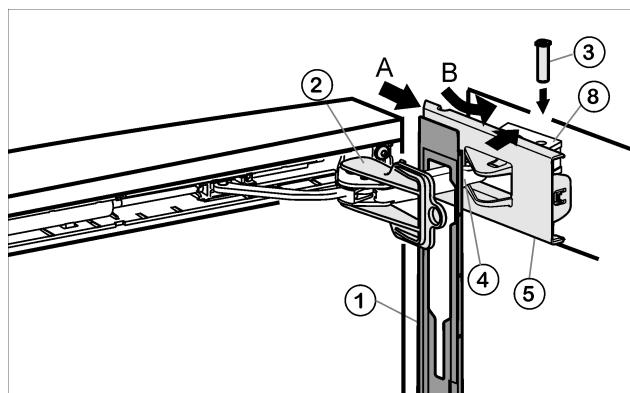

Fig. 17
- Hook panel Fig. 17 (1) into the damper bracket Fig. 17 (4) such that the detent hooks are pointing inwards and the front side is facing the appliance.
- Push on cover Fig. 17 (5) from the outside (A) and pivot over the bearing part Fig. 17 (8) (B).
- Place cover Fig. 17 (5) on top and allow to snap into place until the first notch.
- Pull damper bracket Fig. 17 (4) towards bearing bracket and insert bolt Fig. 17 (3) from above such that the square is resting in the recess.
- Now snap cover Fig. 17 (5) completely into place on the bearing part Fig. 17 (8).
- Remove locking device Fig. 17 (2) by twisting it.
- Snap panel Fig. 17 (1) into place on the door.